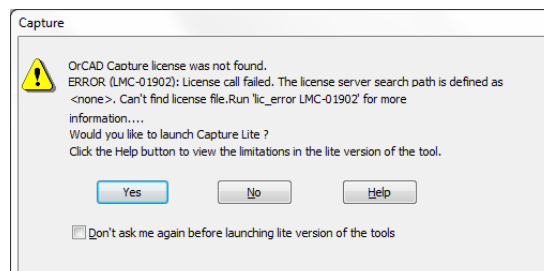

Figure 3: Possible Error Message
5. At this point you may see an error message (see figure 3), if so just hit enter or select yes.